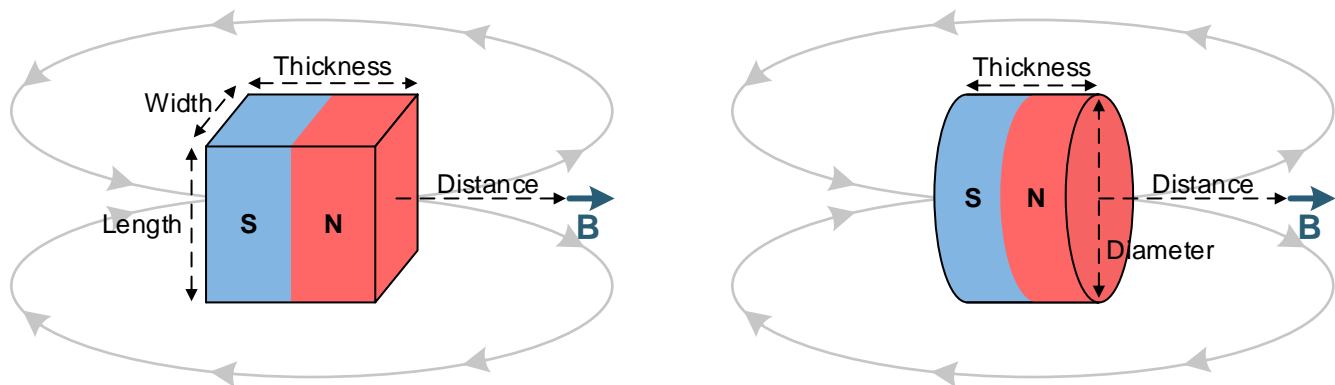

图 21. Rectangular Block and Cylinder Magnets
Magnets are made from various ferromagnetic materials that have tradeoffs in cost, drift with temperature, absolute maximum temperature ratings, remanence or residual induction (Br), and coercivity (Hc). The Br and the dimensions of a magnet determine the magnetic flux density (B) produced in 3-dimensional space. For simple magnet shapes, such as rectangular blocks and cylinders, there are simple equations that solve B at a given distance centered with the magnet. 图 21 shows diagrams for 公式 4 and 公式 5.
Use 公式 4 for the rectangular block shown in 图 21:
Use 公式 5 for the cylinder illustrated in 图 21: